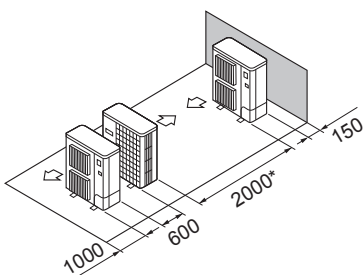

Fig. 5-13
- ⑤ Single parallel unit arrangement (Fig. 5-13)